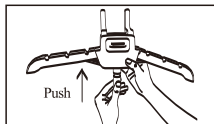

Figure 2
1. Connect the Swivel Connector to the 360° Swivel Hanger (Figure 2).